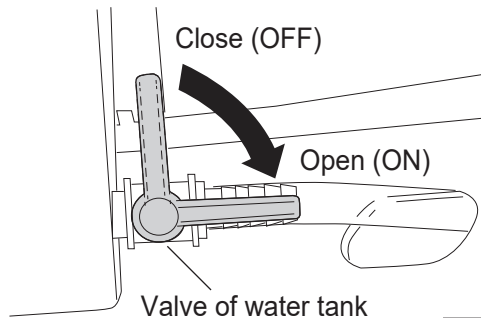

Fig.16
3. Open the valve of water tank and check that the priming water comes out from side of blade certainly. (Fig.16)